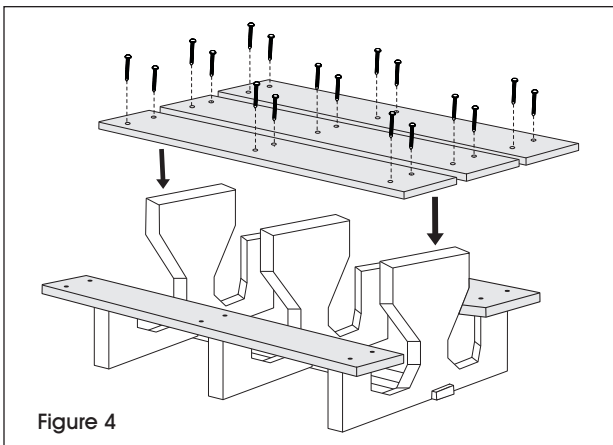

Figure 4
5. Determine the spacing for the slats on the tabletop. Pre-drill holes on the slats using the power drill and 3/8" socket bit. Loosely attach slats to the plastic base using 4" lag screws, power drill and 3/4" socket bit (will tighten later in step 8). (See Figure 4)